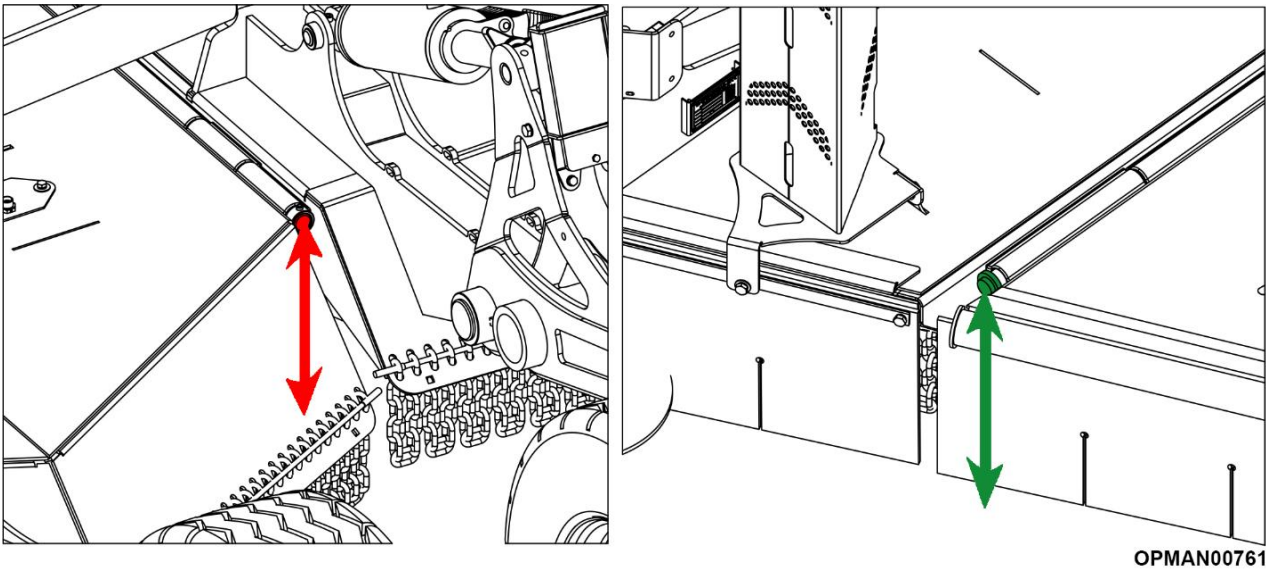

Figure 4.19 – Army Master 500 Front To Rear Machine Levelling
4.7.1.2 Measure from each end of the top of the hinge bar to the ground; see Figure 4.19 to determine the height of the front and rear of the machine.